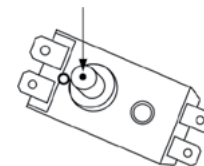

Fig. 10
- for FSQ1 series vertical-type water heaters: unscrew retaining nut of the thermal switch, fastened on the flange of the heating element, turn the thermal switch and press the button, located in the center of the thermal switch, until it clicks; Fig. 10;